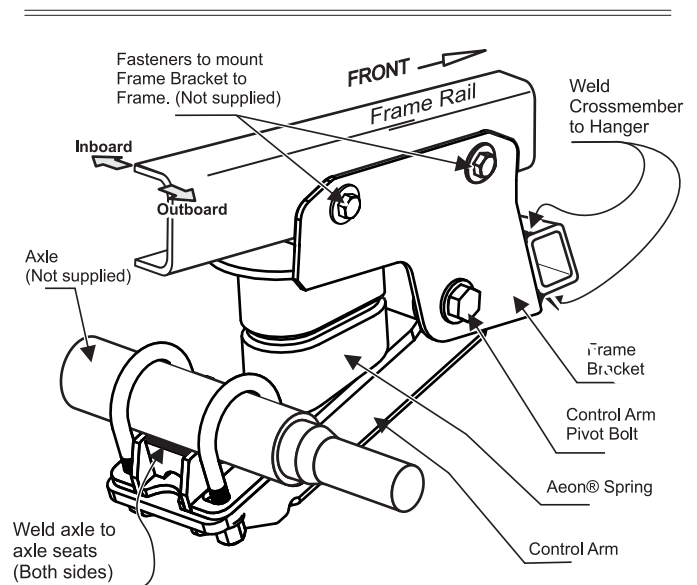

Fig. 2 View of the right-end side suspension on the trailer
- 2) Locate left and right frame brackets on frame rails, opposite to each other. The inboard faces of each frame bracket must mate corner faces of frame rail (fig. 2). Move frame brackets along frame until the center of axle seats line up with marks on the frame rails, viewing from top. Clamp frame brackets to frame.
- 4) Install crossmember: Make a crossmember using a 2"x2"x1/8" structural steel tube section. Locate crossmember at front face of LH and RH hangers, as shown in (fig. 2) and secure it to hanger using bolts, washers and nuts. When hangers are perpendicular to the bottom surface of trailer and cross-member is parallel to that surface.
- 7) Weld axle seats to axle (along axle only), as shown in fig. 2. **DO NOT weld U-bolts.**